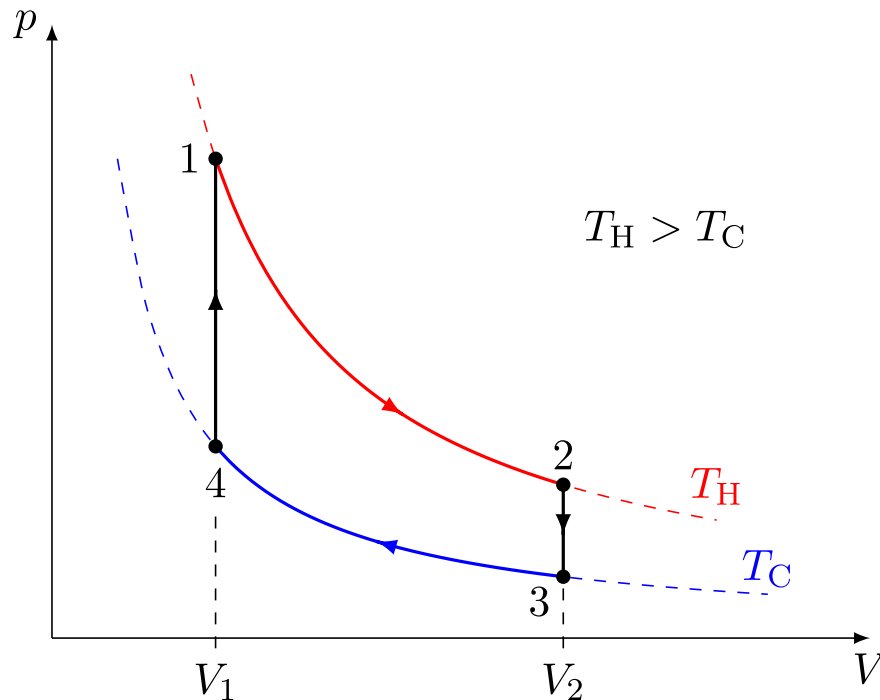

Figure 2: The Stirling cycle  $P$ - $V$  diagram. The enclosed area represents the work done by the cycle. Figure obtained and adapted from Wikimedia Commons.
The idealized Stirling cycle is shown graphically in the  $P$  versus  $V$  plot, known as a  $P$ - $V$  diagram, of Fig. 2.
*Question 2:* In the Stirling cycle, steps 2 and 4 in the cycle of Fig. 2 are isochoric, or constant volume, processes. How much work is done by the gas during these steps?
*Question 3:* In the Stirling cycle, steps 1 and 3 in the cycle of Fig. 2 are isothermal, or constant temperature, processes. How much work is done by the gas during these steps? Suppose that gas temperature during step 1 is  $T_H$  and during step 3 it is  $T_C$ . Suppose also that the minimum and maximum gas volumes are  $V_1$  and  $V_2$ , respectively.